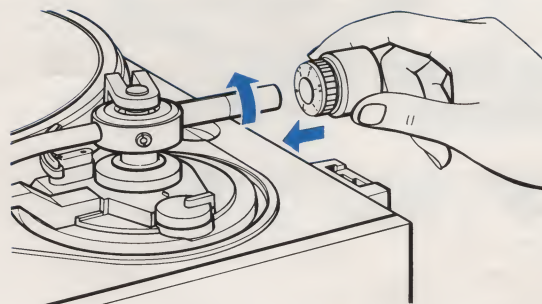

Fig. 2
- 3 Screw the counterweight onto the end of the tone arm to mount. (Fig. 2)